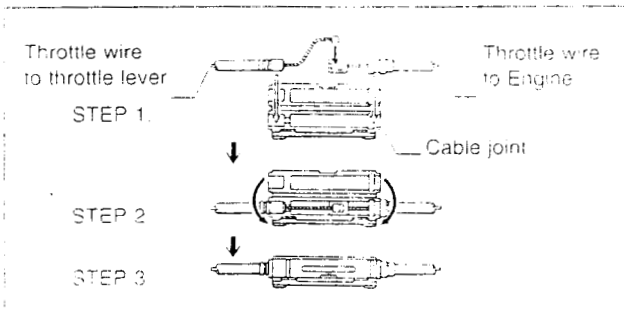

Fig. 7
2. Connect the throttle wires and firmly close the cable joint. (as shown in 3 steps in Fig. 7)